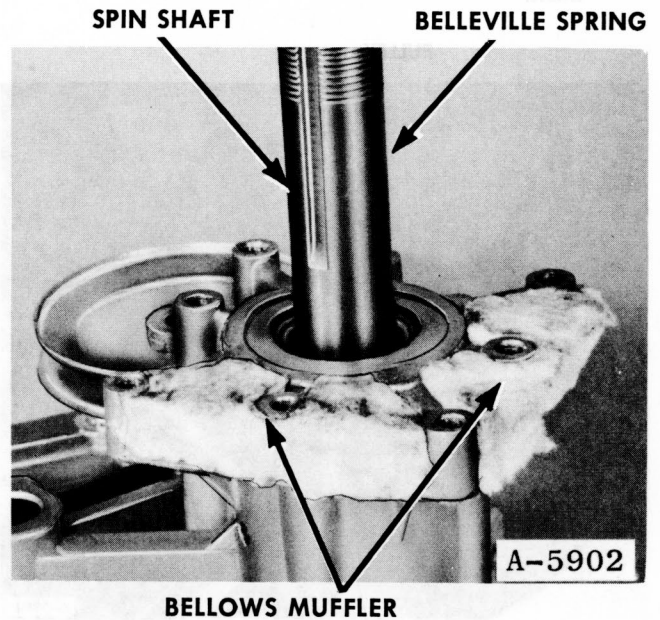

Figure 129
1. Glue the bellows muffer in place, Figure 129.